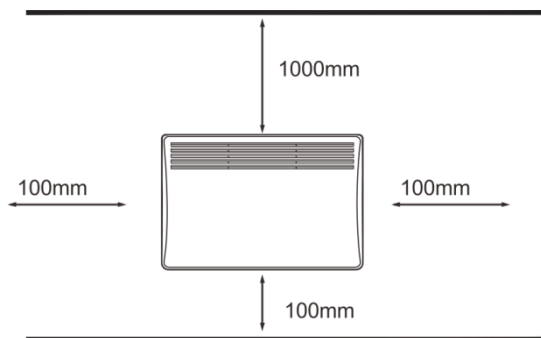

Fig. 3
3. According to Fig. 3 choose the location for the installation of the device in compliance with the minimal distances from other objects and floor.